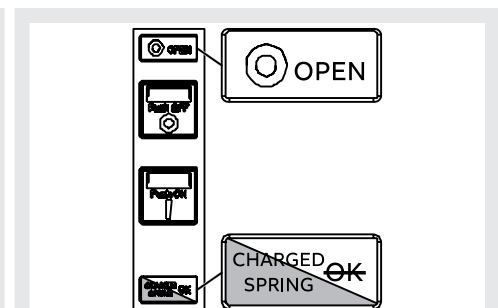

Figure 69
5. Circuit-breaker open with springs charged and not ready to close (see Figure 69). This state occurs in the following cases: